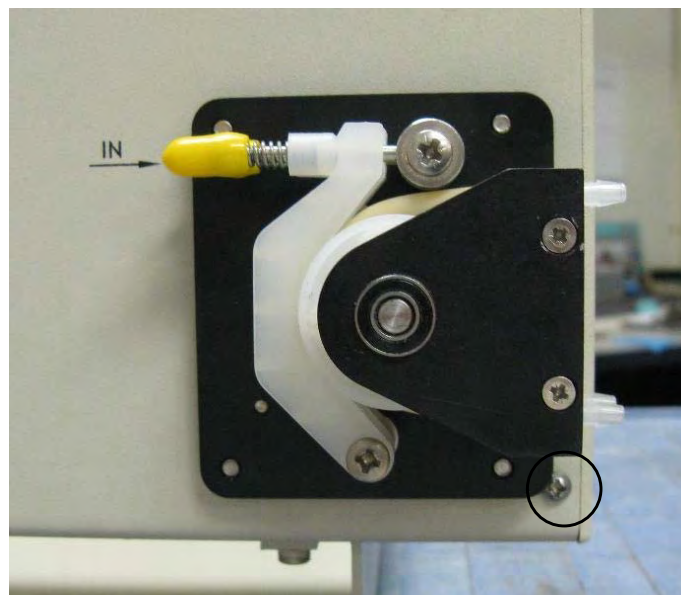

Figure 1-17. New Pump with end plate screw circled.
14. Remove the bottom end plate screws (on the back side) and replace with two provided. Install the new pump assembly oriented as shown in Figure 1-17. Reconnect the power, ground wire, and mounting screws. It may be necessary to replace grommets with new ones provided.